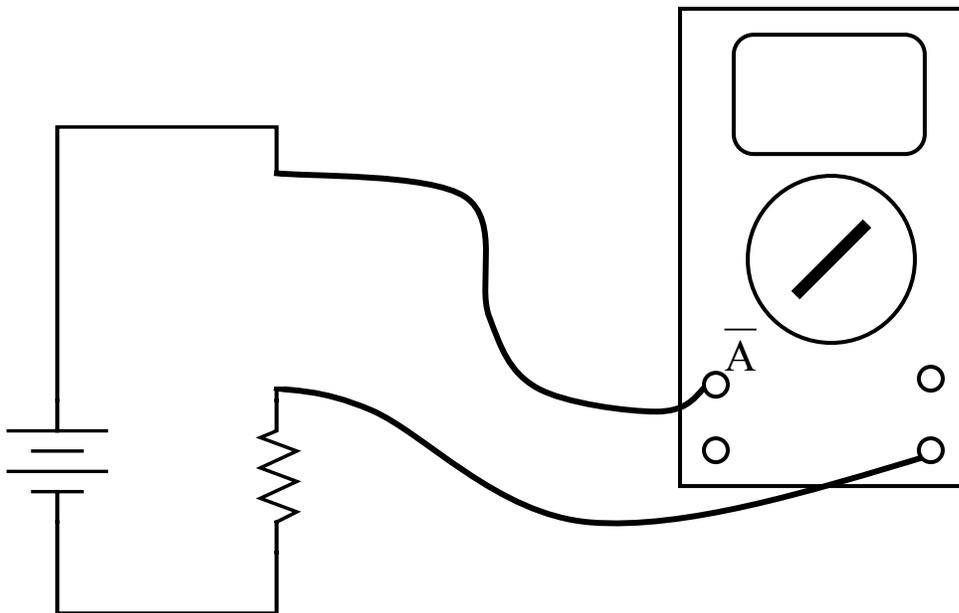

Figure 6
- c) Connect the two probes of the multimeter in series to the resistor, as shown in **Fig. 6**.